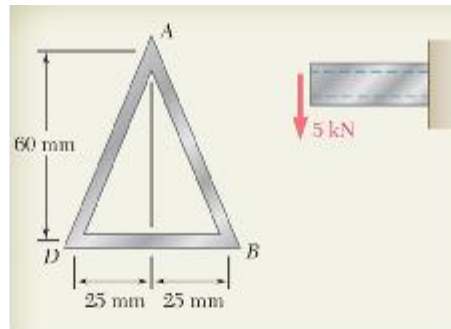

Figure Q.13
13. The beam shown in **Figure Q.13** is made of aluminium and has a uniform 3-mm wall thickness. If the shear force in the beam is 5 kN, what is the shearing stress at point A? (Note: The dimensions given are to lines midway between the outer and inner surfaces of the beam)